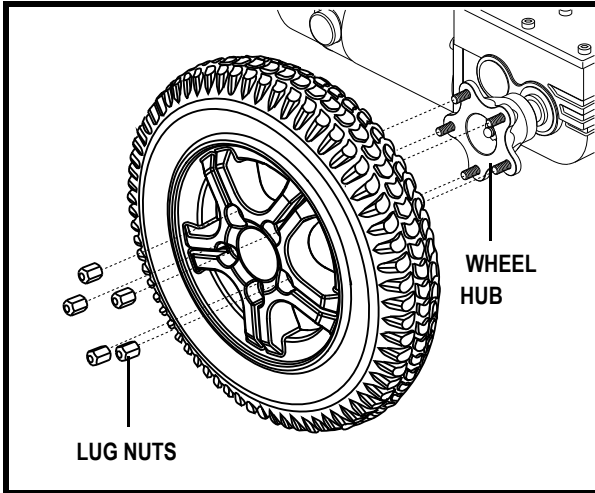

Figure 25. Quantum 6000Z Series Drive Wheel
4. Remove the five (5) lug nuts from the wheel hub. See figure 25.